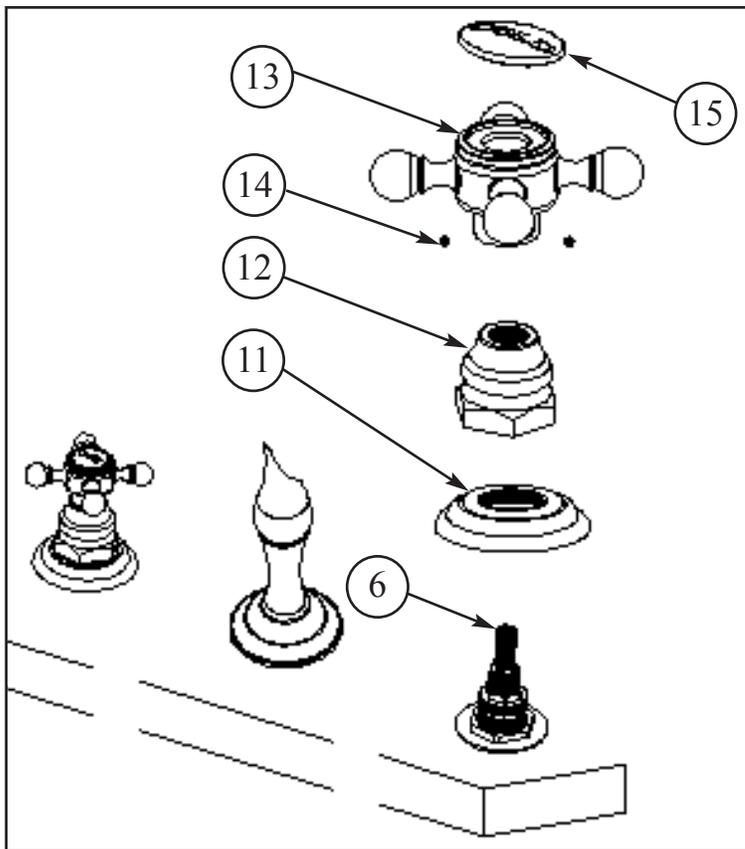

Figure 3
- Turn VALVE STEM (6) to off position. Attach ESCUTCHEON (11) BONNET (12) and HANDLE (13). Any adjustments for rotational alignment must be made to the VALVE BODY (6), not to the cartridge. Allow minimum spacing between HANDLE (13) and BONNET (9) to prevent damage to the surface finish. Secure HANDLE (13) into place with SET SCREW (14). Remove adhesive backing from desired BUTTON (15) and place onto HANDLE (13). See Figure 3.
- Secure BASE (17) in place by attaching the MOUNTING KIT (18) to underside of deck. Place SPRAY (16) and HOSE (20) through BASE (17). Apply plumbers tape to ADAPTER (19) and attach to bottom outlet of DIVERTER TEE (2). Tighten HOSE (20) onto ADAPTER (19).
- Remove AERATOR (21) from SPOUT (1), turn on water supply, and flush both valves until water is clear. Check for leaks and make any final adjustments required. Re-attach AERATOR (21) to the SPOUT (1).